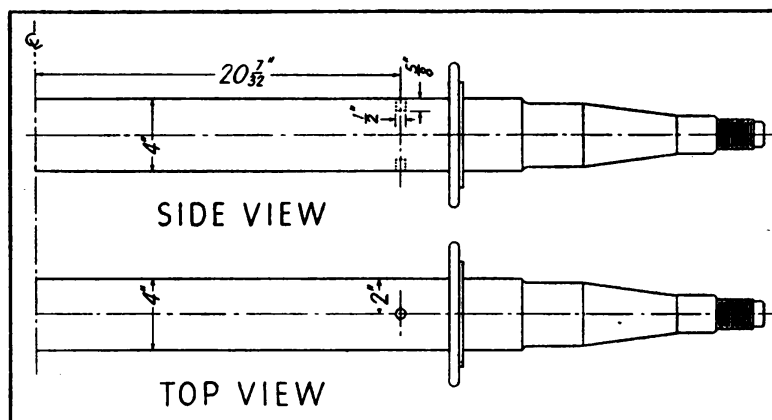

FIGURE 13. AXLE DOWEL PIN LAYOUT—SEMI-TRAILER
b. When installing new axle make certain dowel pin holes are drilled in the top and bottom of axle (Fig. 13).